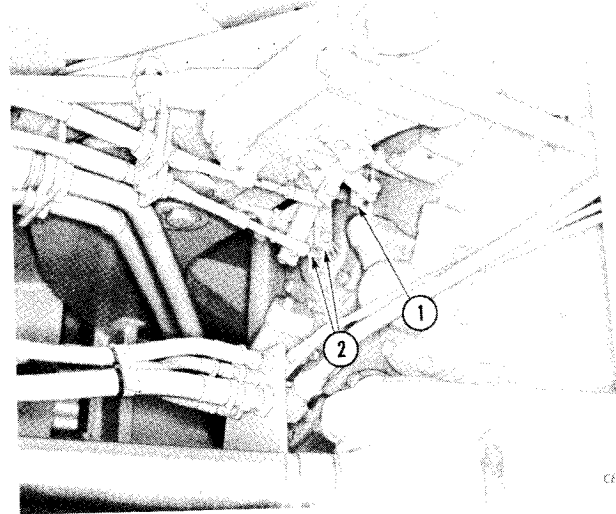

Figure 4-84
Connect rod (1, Fig. 4-84) to range valve and bars (2) to directional valve.